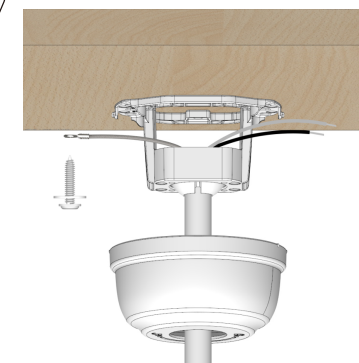

Fig. 6.2
6.2 Attach the other end of the safety cable to a secure location. Fasten the safety cable to the ceiling using a screw and washer (not included), as depicted in Fig. 6.2.